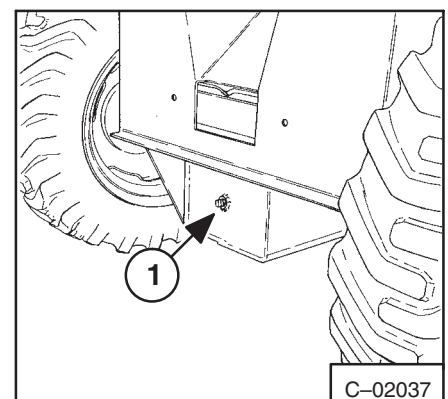

Fig. 1-46 Chaincase Plug
2. Remove the plug at the front of the transmission housing (Fig. 1-46, Item 1).